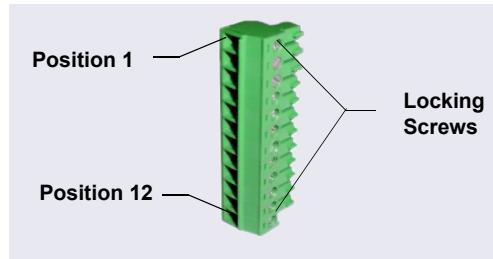

Figure 2-34. 12-Position Connector Plug
- Locate the twisted pair of wires (P/N 043598) and 12-position connector plugs (P/N 923686) (see Figure 2-34) provided with the I/O option board.